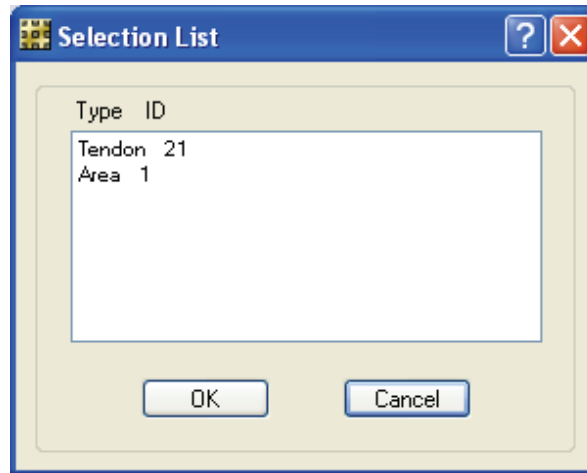

Figure 80 Selection List form
- T. Hold down the **Shift** key on your keyboard and **right** click once on any of the tendons just drawn. A selection list similar to the one shown in Figure 80 displays because multiple objects exist at that location. In this case, one tendon and one area object exist at the same location. Note that the selection list will display only when the **Shift** key is used with the right click.